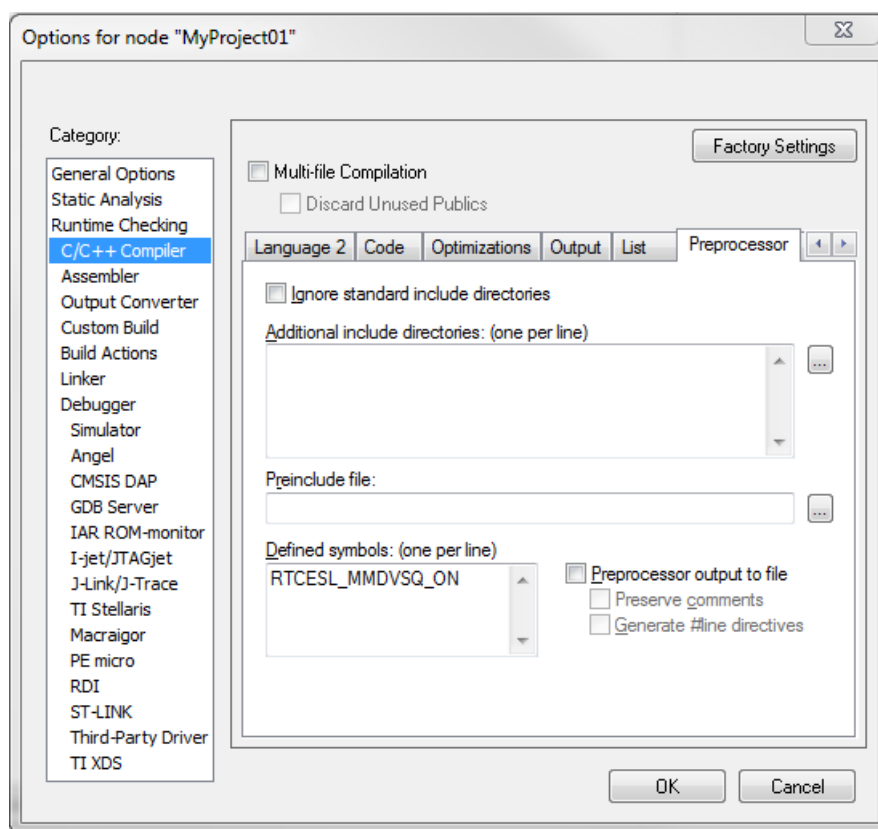

Figure 1-31. Defined symbols
4. In the text box (at the Defined symbols: (one per line)), type the following (See Figure 1-31):